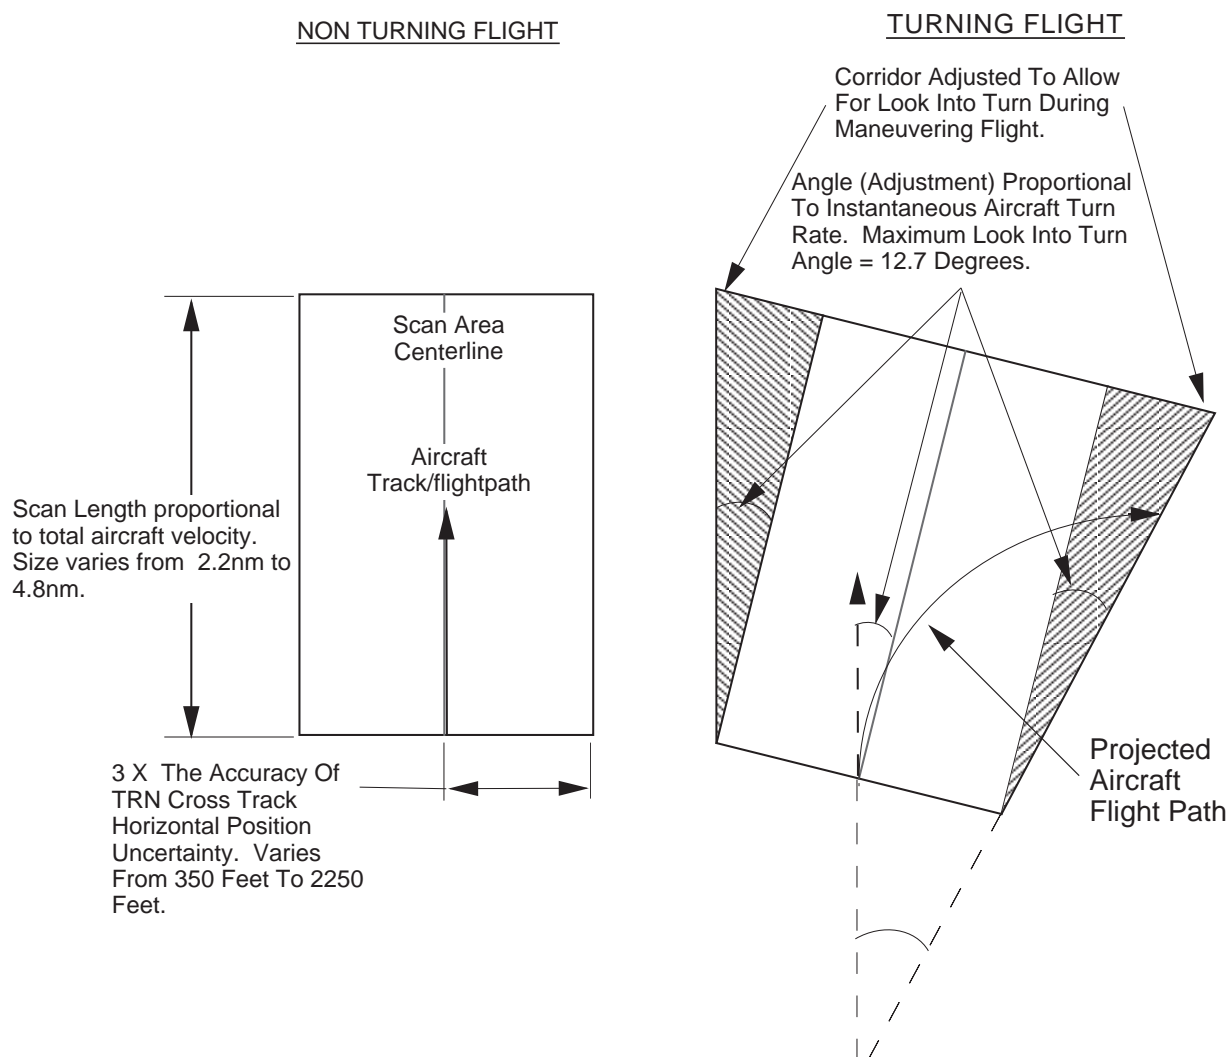

Figure 2-35 Scan Area
**DTS Predictive Ground Collision Avoidance System (PGCAS).** The DTS PGCAS function will significantly enhance the F-16's PGCAS capability by registering the aircraft pullout calculation to a three-dimensional terrain and obstacle model instead of the currently used flat-earth, no-obstacle assumptions. Once the TRN function accurately registers the aircraft's position relative to the surrounding terrain, the DTS scans a corridor (Fig 2-35) in the stored DFM and develops a "worst case" two dimensional terrain-obstacle profile from the data contained in the corridor. The length of the corridor, which varies between 2.2 and 4.8 nautical miles, ensures that accurate and timely PGCAS advisories are provided for terrain and obstacles located within at least 10 seconds time of flight from the aircraft. The width of the PGCAS corridor provide a "look into turn" capability. The total size of the area scanned is adjusted based on aircraft total inertial velocity, TRN horizontal position accuracy, and instantaneous aircraft turn rate.
in Figure 2-35. The scan area provides terrain and obstacle DBTC coverage in straight and level flight as well as turning flight, similar to the PGCAS function. The accuracy's of the DTED/VOD databases and TRN outputs directly influence how closely DBTC steering commands will follow the actual terrain being overflown. Flight using this mode should be limited to flight conditions having sufficient visibility for the pilot to be able to visually detect and avoid terrain and obstacles which may be inaccurately recorded or omitted from the data bases.